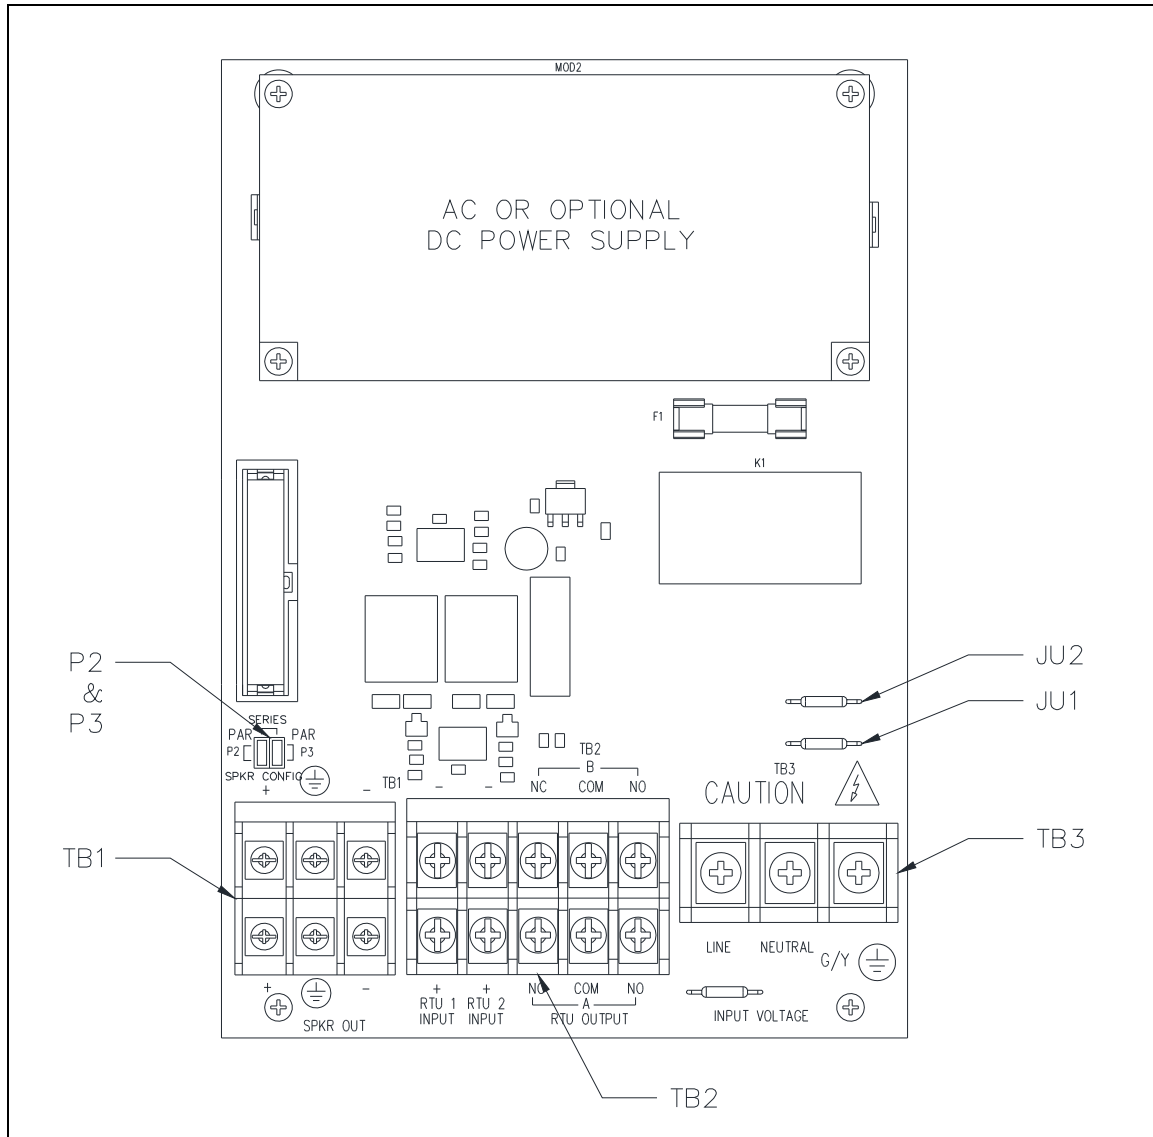
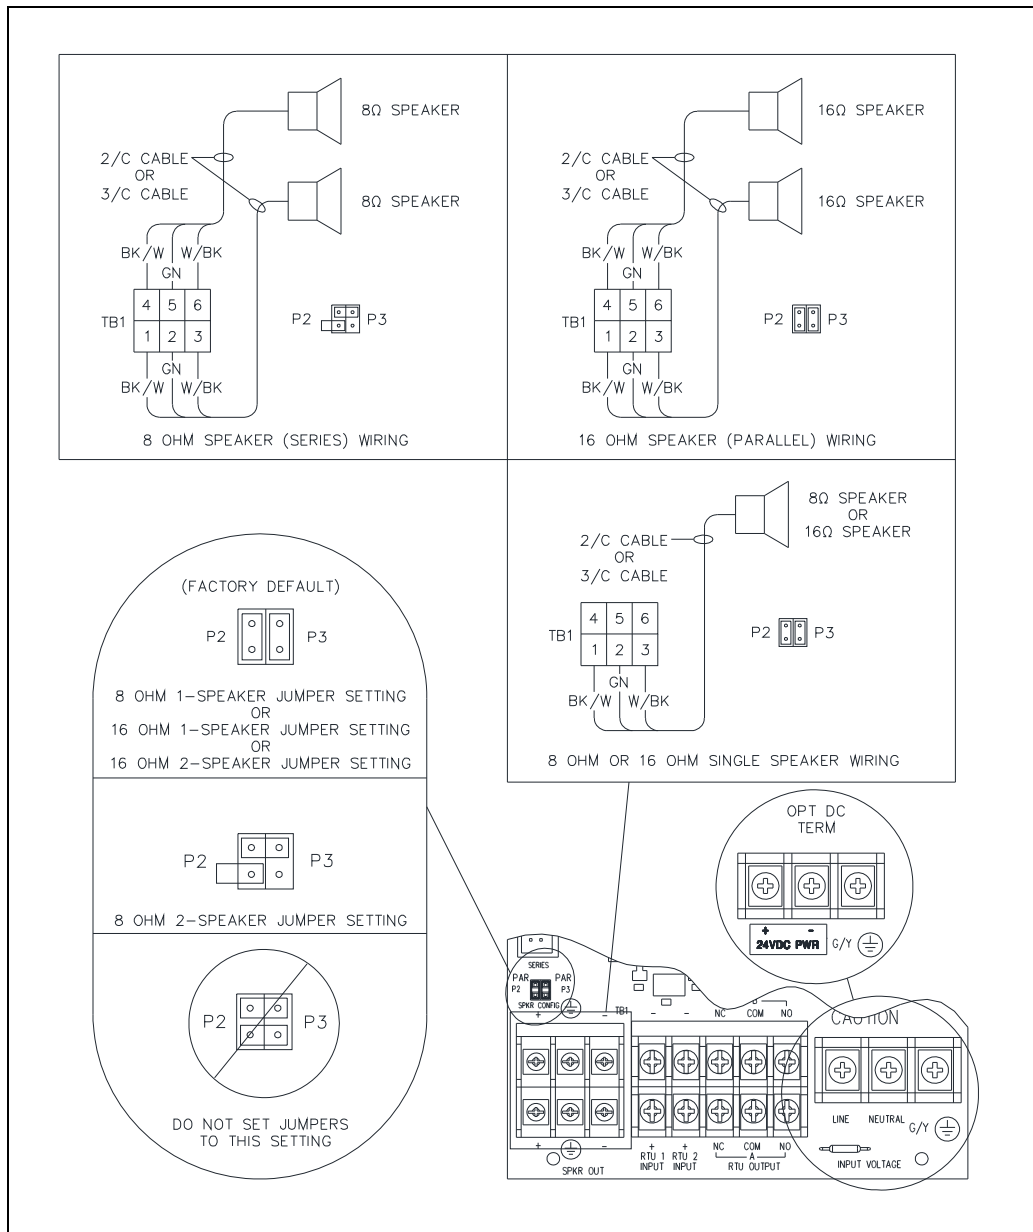
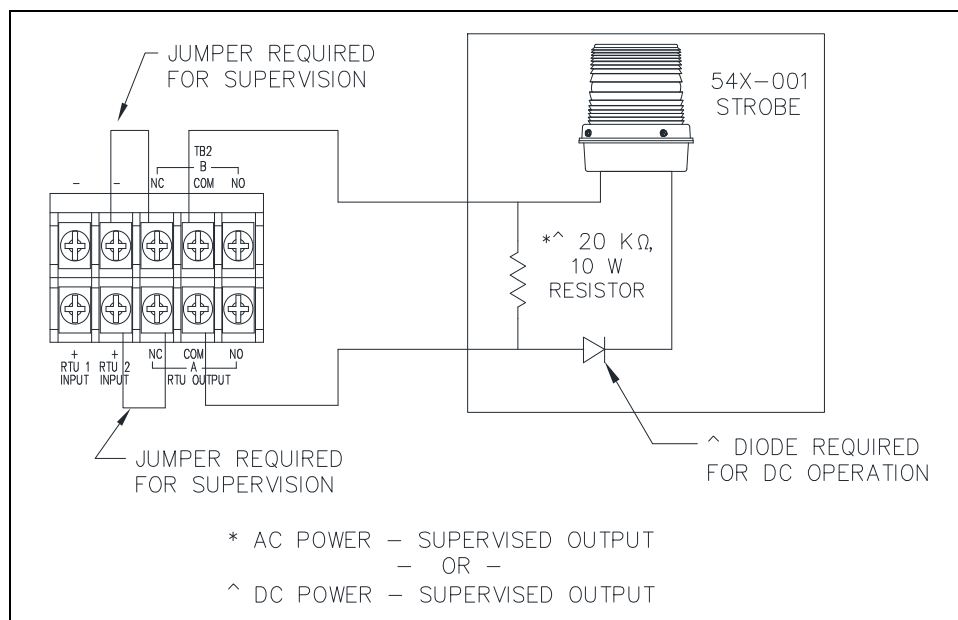

Figure 4. SP2 Standard Termination PCBA
Figure 5. 8/16-ohm Speaker Impedance Configuration and AC/DC Termination at TB3
Figure 7. Supervised Output Wiring—TB2
5. Configure the speaker jumpers, P2 and P3, for the appropriate impedance for use with 8-ohm or 16-ohm speakers (see Figure 4 and Figure 5).
The termination PCBA contains two auxiliary RTU inputs. Terminate the inputs at terminal block TB2 (see Figure 4).
Two form C contacts are provided to power a beacon (see Figure 7). Terminate the outputs at terminal block TB2 (see Figure 4). Configure the outputs for dry contact use by removing jumpers JU1 and JU2.
5. Install a 20-kilohm 10-watt resistor across the terminals of the beacon (see Figure 7).
6. Install jumpers at terminal block TB2 as shown below to enable cable monitoring (see Figure 7).
The ac or optional dc power supply is on the termination PCBA. Connect the local ac or dc power source to terminal block TB3 (see Figure 4 and Figure 5):